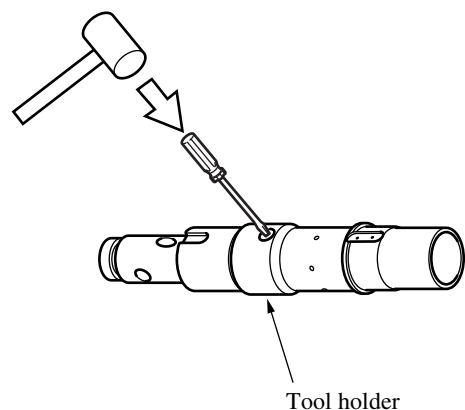

Fig. 15
- 2) Put a thin \ominus driver into hole of Tool holder, hit it by plastic hammer, and remove Ring spring 21 from grooves. (See Fig.15)